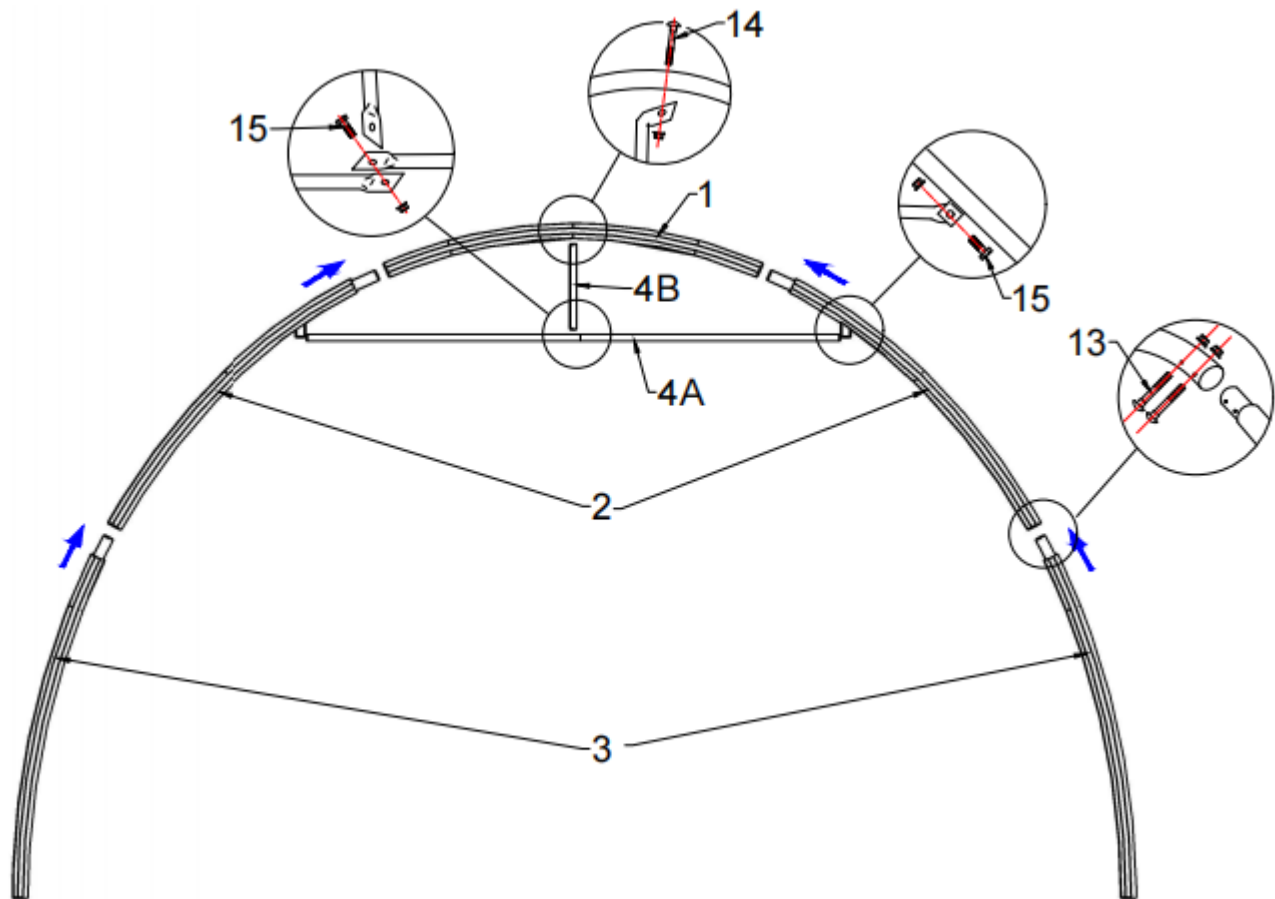

Figure 2
3.1 As **Figure 2** shown to find one Roof Bent Tube (No.1), two Middle Bent Tubes (No. 2), two Lower Bent Tube (No. 3) and assemble every group arch with Bolt M8x60 (No.13). DO NOT install the screw on the top of the truss where the fabric will rest.